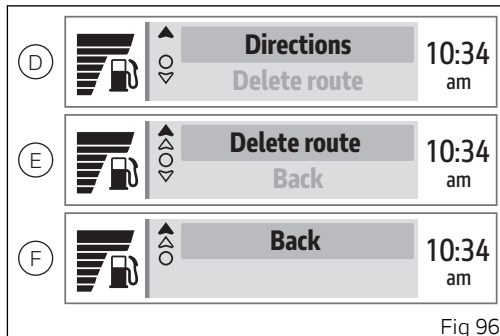

Fig 96
- Select the "Directions" item (D, Fig 96) and press ENTER (3).
- Select the "Delete route" item (E, Fig 96) and press ENTER (3).